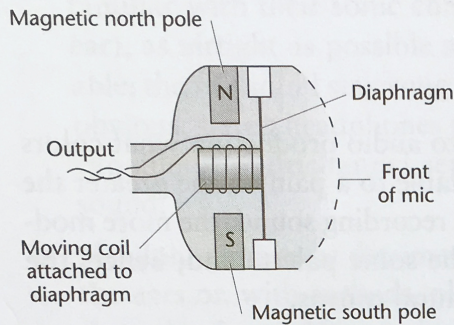

Figure 6-1 The element of a moving-coil microphone.
**Magnetic induction** uses a fixed magnet and a movable diaphragm to which a small, lightweight, finely wrapped coil suspended between the poles of a fixed magnet is attached. When it moves through the magnetic field in response to the sound waves hitting the diaphragm, it produces voltage proportional to the sound-pressure level. Such mics are called **moving-coil microphones** (see Figure 6-1).